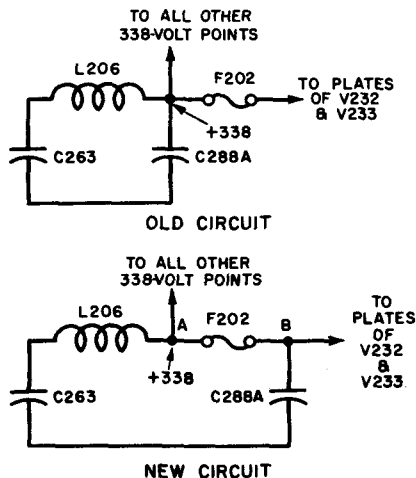

Fig. 46 — DuMont
2. Delete *C316*, 5- $\mu$ f capacitor in grid circuit of first sound i-f amplifier, and make a direct connection between *Z201*-(3) and pin 1, *V201*.
3. Delete *C314*, 10- $\mu$ f capacitor in grid circuit of second sound i-f amplifier, and make a direct connection between *Z202*-(3) and pin 1, *V202*.
**DUMONT Model RA-109A****Rewiring of fuse (see Fig. 46).**